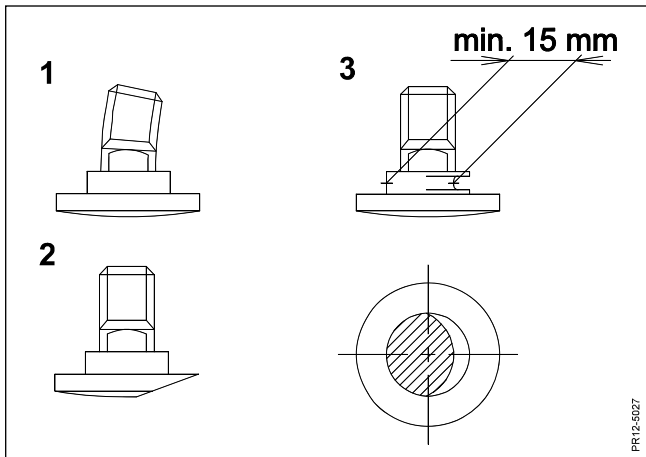

Fig. 5-7
- Fig. 5-7** Blade bolts must be replaced if: